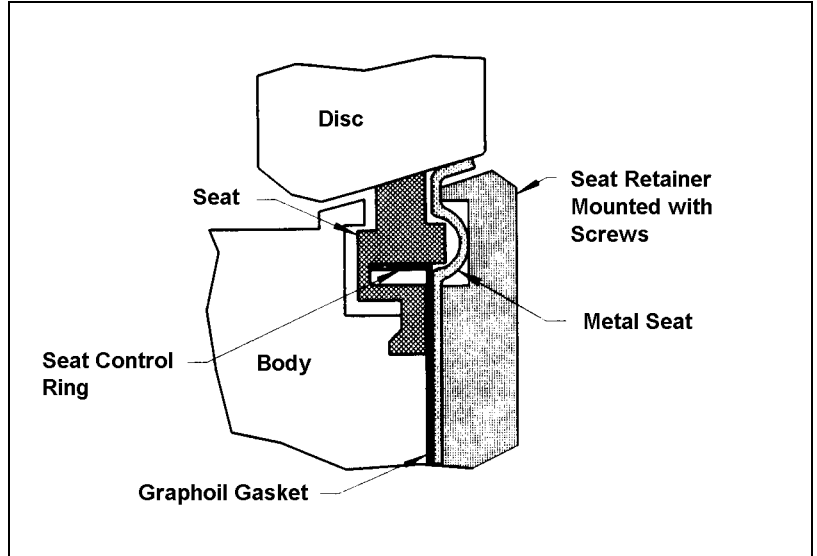

Figure 3 — (FB) Fyre-Block Seat Options (RTS2 and TTS2)
- (FB) Fyre-Block Seat Options (RTS2 and TTS2)—see Figure 3 on page 11